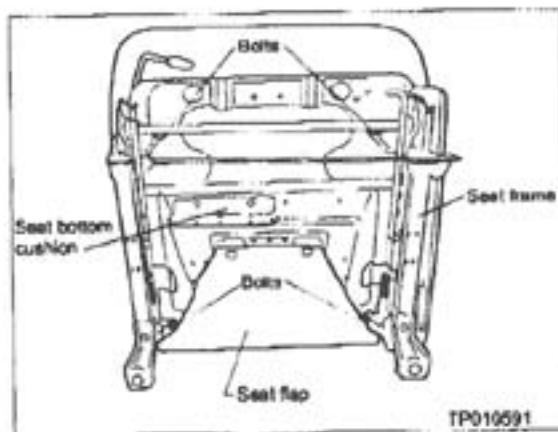

Figure 4
6. Remove the four MB bolts that fasten the seat bottom cushion to the seat frame (see Figure 4).